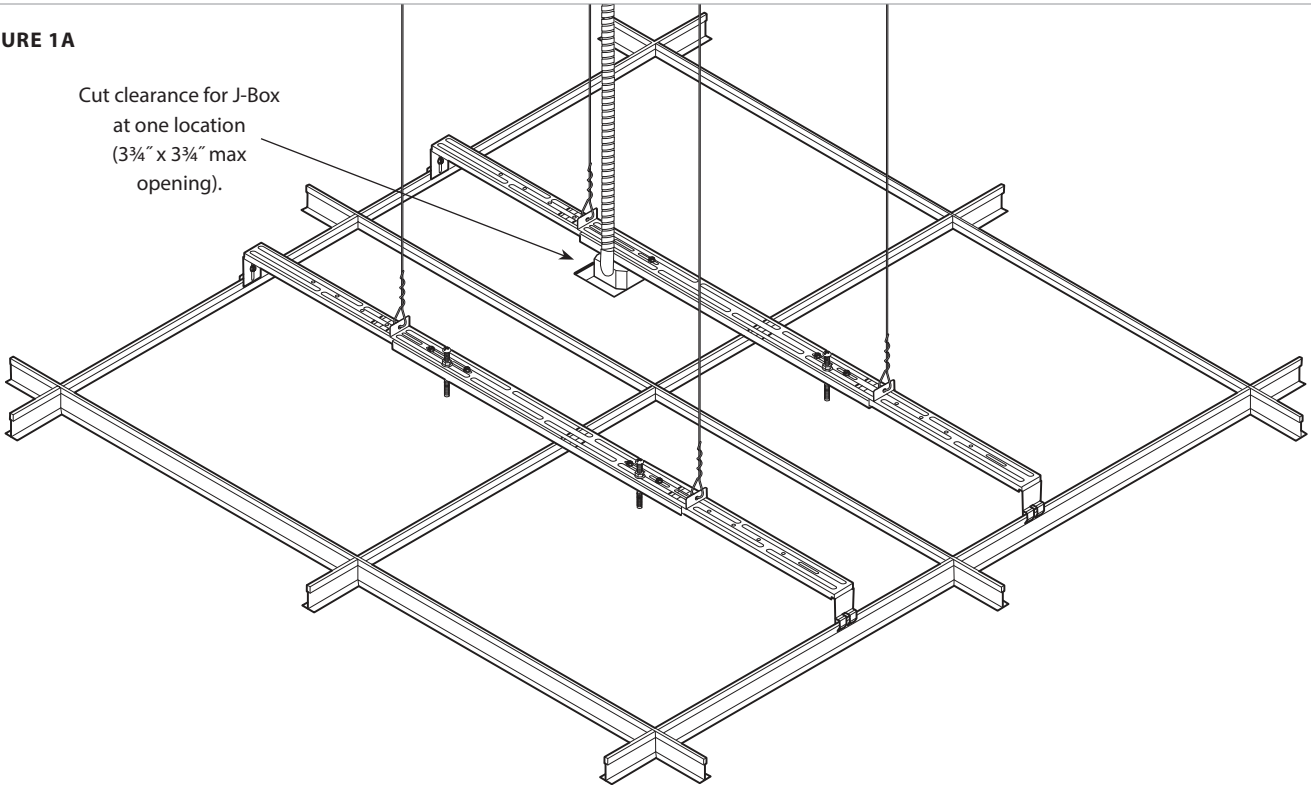

FIGURE 1B
- Secure assembly to t-bar with clamps (Figures 1B & 1C).
- Adjust fender washers against back of ceiling tile to prevent movement (Figure 1B).